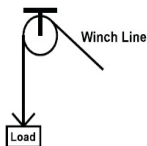

Figure 1a, 1 Part Single Reeved System
- 1 worker weighing a maximum of 310lbs (140kg) (including all clothing, tools, and equipment) in a 1 Part Single Reeved System (see Figure 1a), or